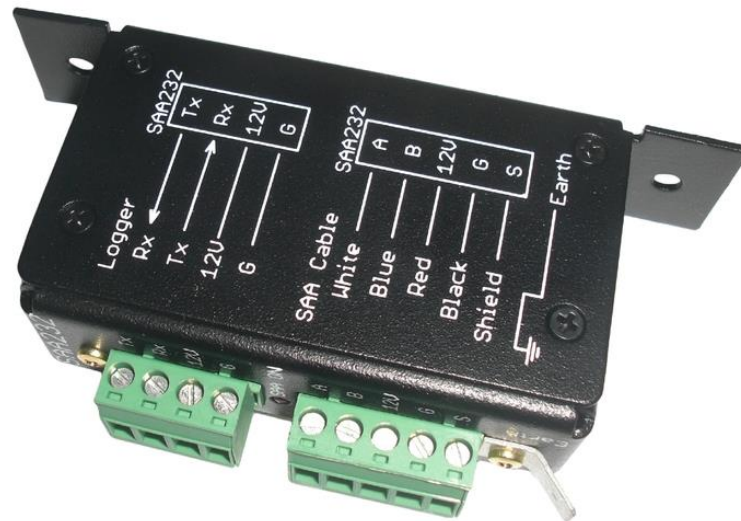

Figure E.1: SAA232. The 4-pin green connector connects to the RS232 port of the computer. The 5-pin green connector connects to the SAA.
Single SAA can be connected to Measurand's SAA232 interface (shown in Figure E.1). The SAA232 incorporates a resettable fuse and surge protection, and automatically applies power to an SAA only when there is serial RS232 data being sent from the PC to the SAA232. It also converts the RS232 communications protocol from a PC serial port to the RS485 communications protocol that the SAA uses.
1) Connect the SAA to the green 5-pin connector on the SAA232 (Figure E.1). The SAA wiring is as follows: